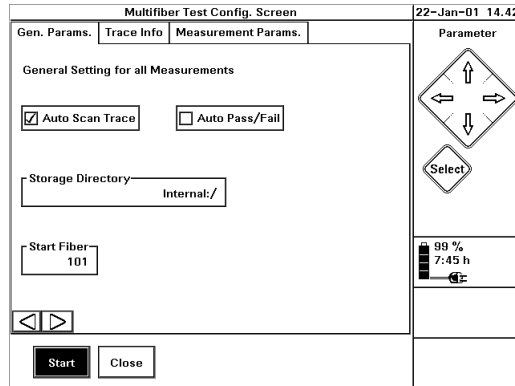

Figure 61 Multi Fiber Test General Parameters screen
- You see the General Parameters screen (Figure 61).